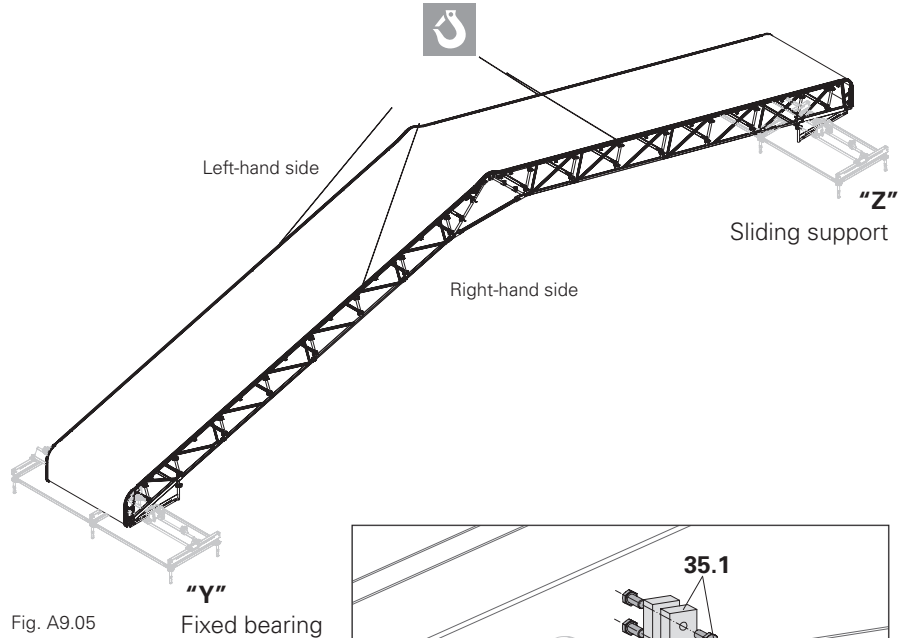

Fig. A9.05
5. Secure the girder package to prevent it from rolling away unintentionally. (Fig. A9.05)